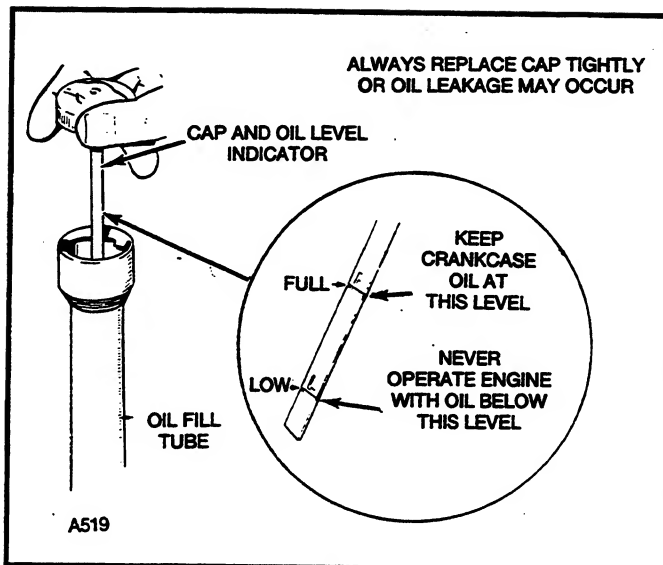

FIGURE 5-1. OIL LEVEL INDICATOR
- Keep the crankcase oil level up to the FULL mark on the dipstick (Figure 5-1).